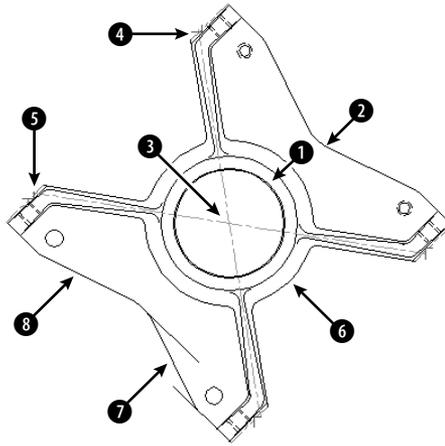

Figure 14-18: A bearing housing for an industrial washing machine.
2. Save the file as `ab14-04.dwg` in your AutoCAD Bible folder. This is a view of a bearing housing for an industrial washing machine, as shown in Figure 14-18. OSNAP should be on. Set running object snaps to endpoint, intersection, and center. If the Dimension toolbar isn't visible, right-click any toolbar and check Dimension.
4.  Choose Diameter Dimension from the Dimension toolbar. At the *Select arc or circle:* prompt, choose the outer of the two circles at ① in Figure 14-18. At the *Specify dimension line location or [Mtext/Text/Angle]:* prompt, pick a location for the dimension line.
5.  Choose Radius Dimension from the Dimension toolbar. At the *Select arc or circle:* prompt, choose ② from Figure 14-18. At the *Specify dimension line location or [Mtext/Text/Angle]:* prompt, pick a location for the dimension line. The line may appear to the left of the angle; try moving the cursor until the dimension appears to its right.
Specify angle vertex: *Pick ③ in Figure 14-18.*
7. Repeat the DIMANGULAR command. At the *Select arc, circle, line, or <specify vertex>:* prompt, pick the arc at ⑥. At the *Specify dimension arc line location or [Mtext/Text/Angle]:* prompt, pick a location for the dimension line.
8. Repeat the DIMANGULAR command. At the *Select arc, circle, line, or press ENTER:* prompt, pick ⑦ in Figure 14-18. At the *Second line:* prompt, pick ⑧. At the *Dimension arc line location (Mtext/Text/Angle):* prompt, pick a location for the dimension line to the left of the model.